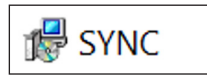
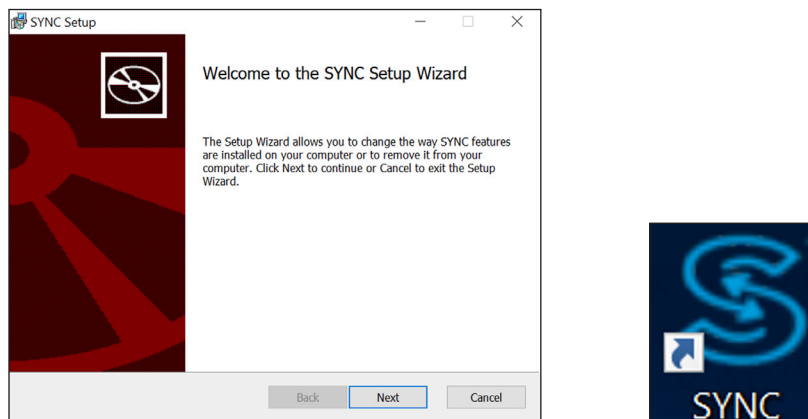

Figure 1: SYNC Installer
Figure 2: SYNC Setup and desktop icon
**Step 2:** Click the SYNC.msi file (**Figure 1**) and proceed through the setup (**Figure 2**) to launch SYNC for the first time.
**Note:** A desktop shortcut icon of SYNC (**Figure 2**) is created after the installation. This shortcut will launch the software after the initial installation.